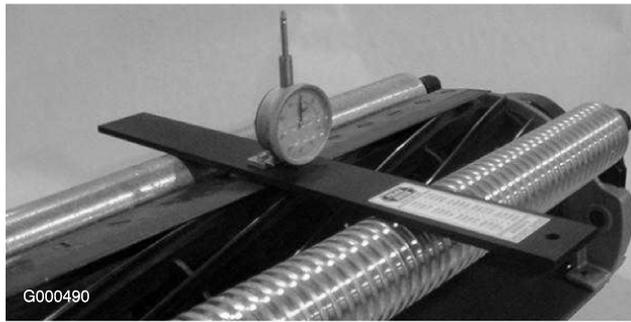

Figure 53
5. Hook screw head on cutting edge of bedknife and rest rear end of bar on rear roller (Figure 53).